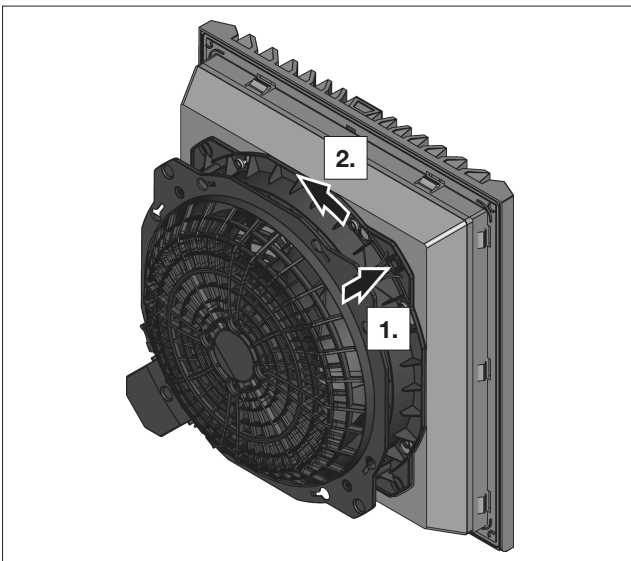

Fig. 10: Release the bayonet connection
- Press the release button of the bayonet connection at the rear of the fan (see fig. 10). This is located on the opposite corner from the connection terminal.